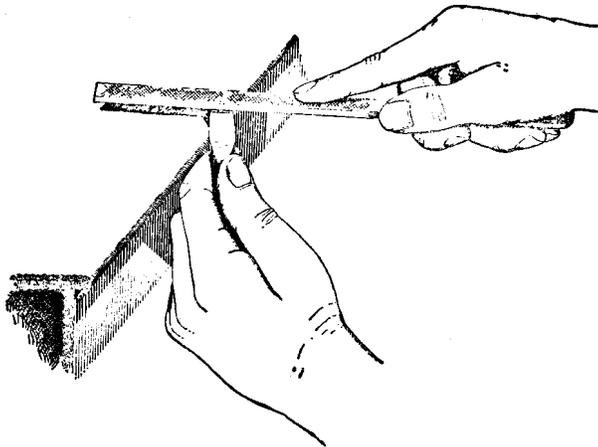

Fig. 11
- (c) For squaring the tip of the blade, hold the screwdriver blade at a right angle to a flat surface (floor of truck, top of box or workbench) using index finger to steady it, as shown in Fig. 11.